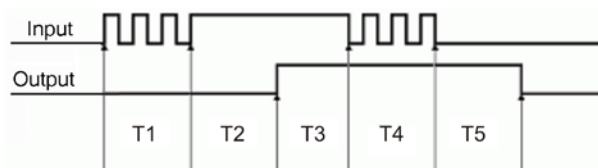

Figure 21. *Trigger after stable* mode
In the *trigger after stable* mode, the output of the debounce module does not change state until a period of stability has been achieved. This means that the input has an edge, and then must be stable for a period of time equal to the debounce time. Refer to Figure 21.
- T1—In Figure 21, the input signal goes high at the beginning of time period T1, but never stays high for a period of time equal to the debounce time setting (equal to T2 for this example.)